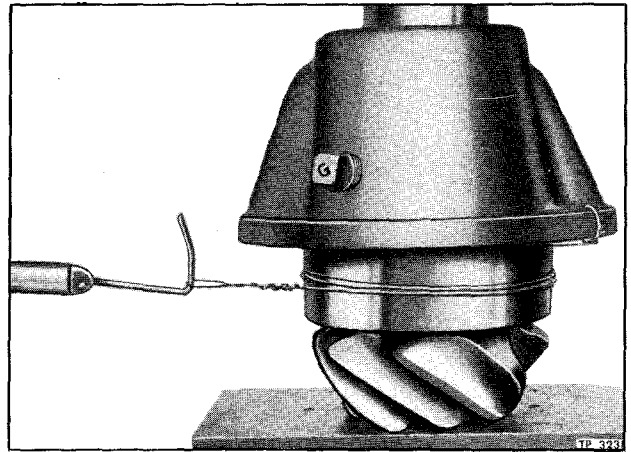

Figure 5—Checking Pinion Bearing Preload
1. If pinion bearing cups (25 and 27) were removed during disassembly, press bearing cups firmly against pinion bearing cage (23) shoulders.
2. Position pinion bearing (28) on drive pinion (29), with widest part of bearing cone toward gear teeth, then press bearing on pinion until bearing cone seats solidly against drive pinion teeth.
3. Position drive pinion inner bearing (31) on drive pinion (29), and use arbor press to force bearing into place. Install retainer ring (32) to retain bearing.
4. Install pinion bearing spacer (26) on drive pinion, then lubricate pinion bearing cones and cups with light engine oil.
5. Insert drive pinion (29) and bearing assembly into pinion cage (23); then, using an arbor press, press outer pinion bearing (24) firmly against bearing spacer (26). Rotate bearing cage through several complete revolutions to assure normal bearing contact.
6. While assembly is still in press under pressure, check drive pinion bearing pre-load. Wrap soft wire around pinion bearing cage (23) as shown in figure 5. Attach pound scale to wire, then pull on scale, keeping scale in a horizontal plane. Note scale reading when assembly is rotating freely. Reading should be from 12 to 18 inch pounds. To compute inch-pound value of scale reading, multiply scale reading (pounds) by one-half pinion cage diameter (inches). If reading does not fall between limits given, use thinner spacer to increase or thicker spacer to decrease pinion bearing pre-load. Spacer thicknesses available are given in "Specifications" at end of this section.